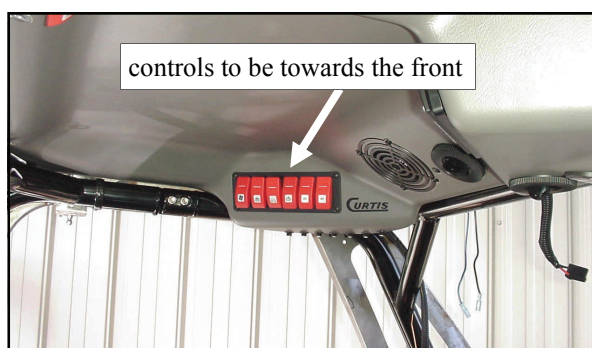
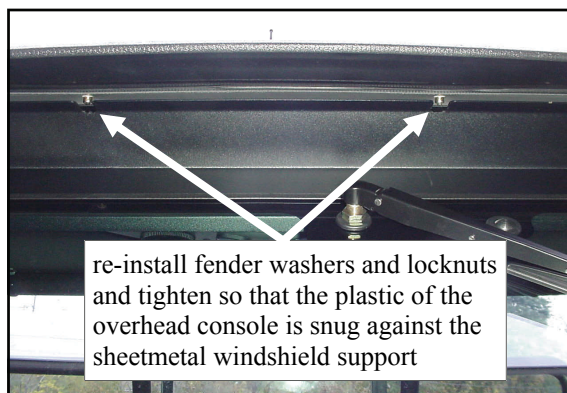
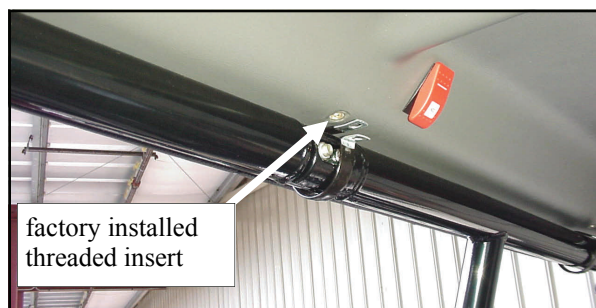

Fig. 8.1 View from passenger's side
Fig. 8.6.1 View from front of vehicle
Fig. 8.6 View from passenger's side
8.1 Temporarily remove and save 2 fender washers and 2 locknuts where indicated in fig. 8.6.1 on the next page. With assistance, place the roof/console assembly in place oriented so the controls are towards the front of the vehicle. See figure 8.1.
8.6 Install three 1/4-20 x 3/4" long Truss head, Phillips head bolts through the three rear "P" clamps and into the threaded inserts in the rear of the overhead console. See fig. 8.6. Tighten the previously installed four bolts (2 per side) holding the front of the overhead console to the windshield support. Per fig. 8.6.1 below, re-install 2 fender washers and 2 locknuts (temporarily removed in step 8.1) to secure the middle front of the roof/overhead console assembly to the metal windshield support. Do not overtighten.